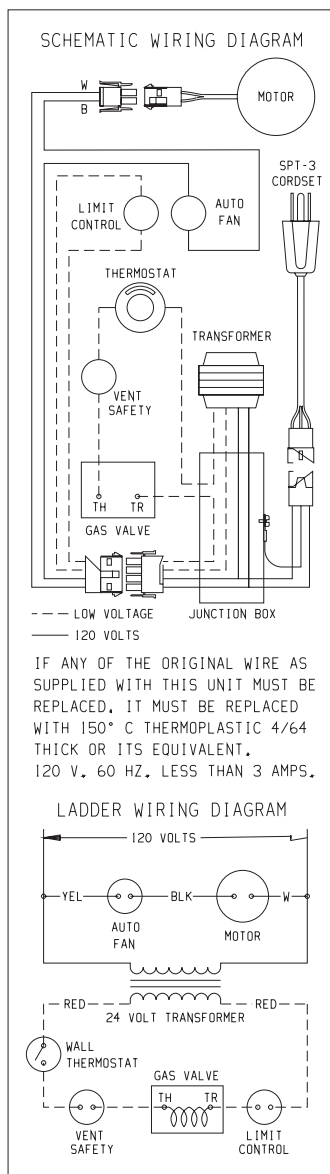

Figure 9
3. To check for line voltage to furnace, remove lower front panel and switch compartment cover and short across two-terminal fan control to allow fan to operate (Figure 9).